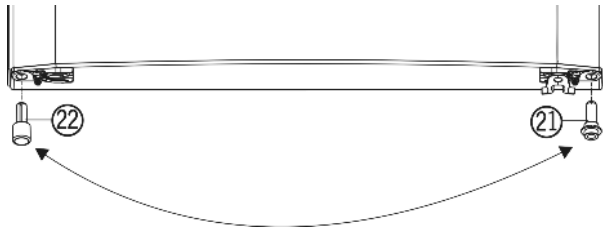

Fig. 4
- ▶ Remove the spacer Fig. 4 (22) from the bottom left of the door.
- ▶ Push the spacer Fig. 4 (22) into the bottom right of the door.